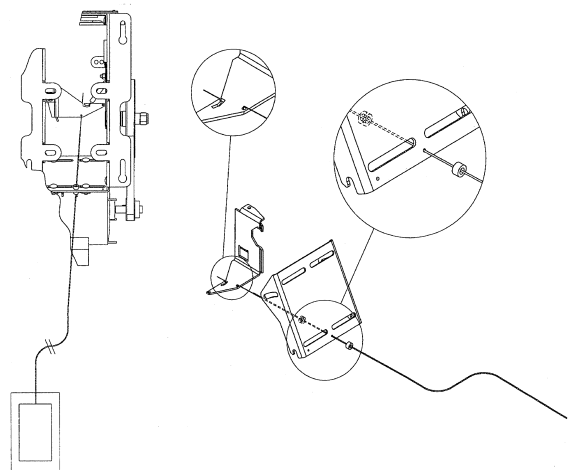

Figure 13 - Emergency Egress
1. Pass the cable housing (from the emergency egress control) through the holes provided on the frame of the operator, see Figure 13.